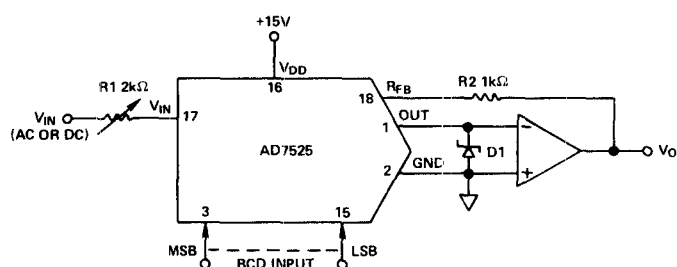

Figure 4. Digitally Controlled Attenuator Circuit
3. The inputs of some IC amplifiers (especially high speed types) present a low impedance to $V-$ during power sequencing. To prevent the AD7525 OUT terminal (pin 1) from exceeding -300mV (which causes catastrophic substrate current), a Schottky diode, HP5082-2811 or equivalent, is recommended. While not required for most amplifier types, provision for the diode should be made during layout. The diode should be connected between OUT (pin 1) and GND (pin 2) as shown in Figure 4, page 141S.